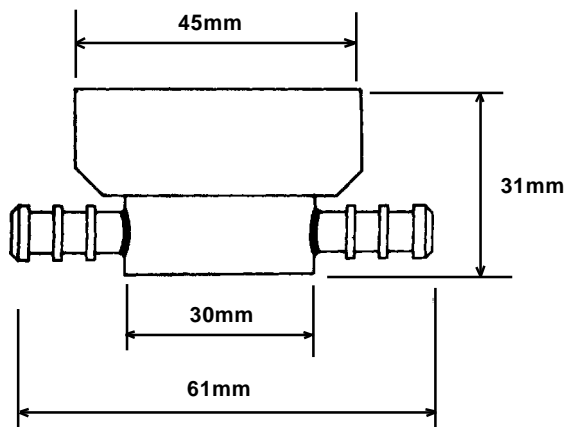

Figure 4 Sample Flow Housing
- c. Sample Flow Housing (Figure 4).